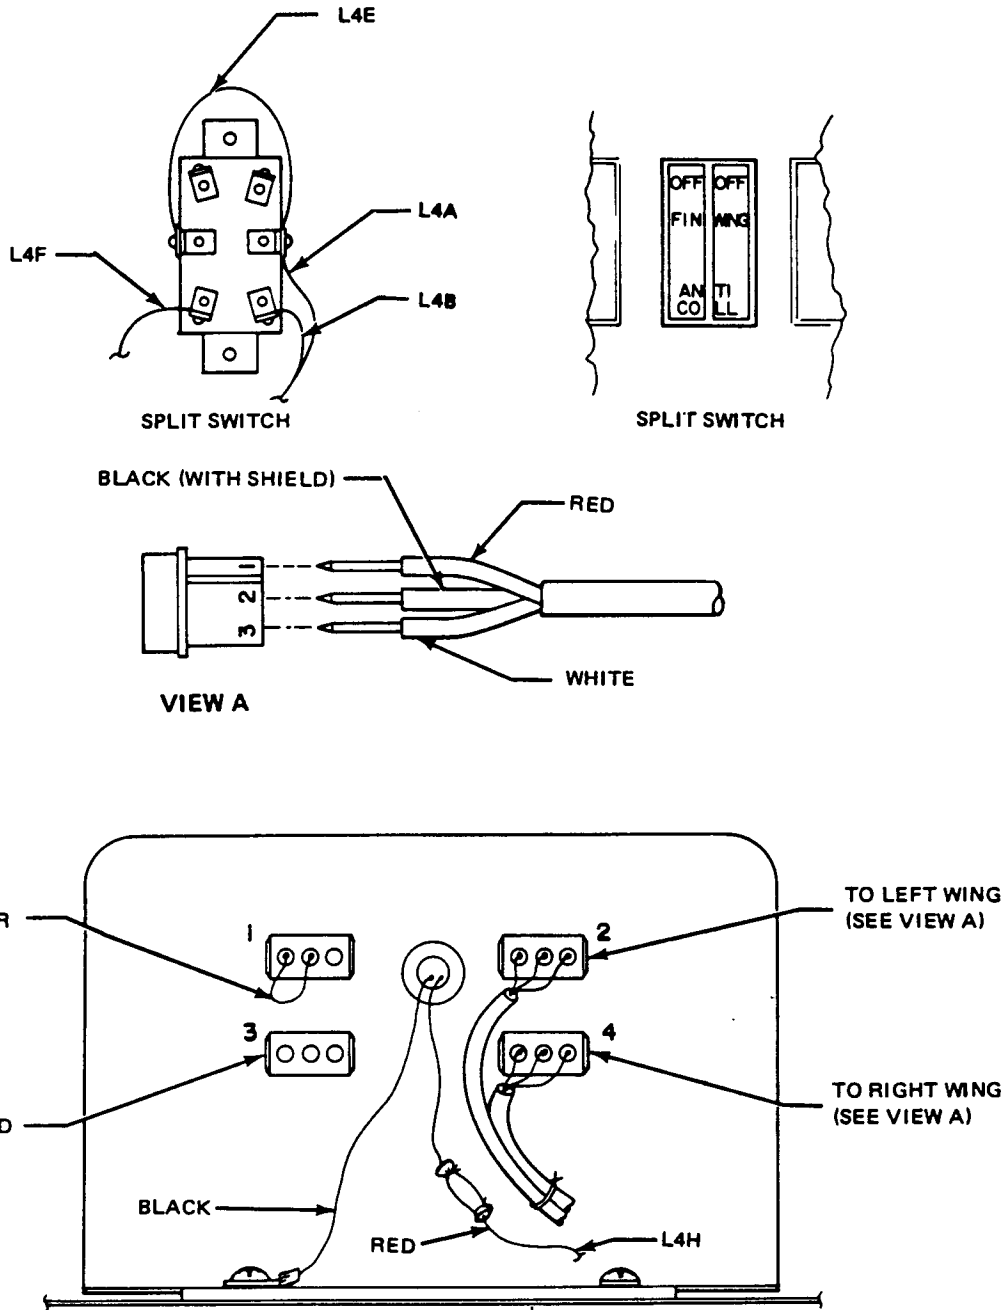

Figure 33-1. Strobe Light Connections
2. Insert wire terminals in plastic plug supplied with new lamp. Wire according to schematic diagram. (Refer to figure 33-1.) Connect plug to receptacle.
INSTALLATION OF STROBE POWER SUPPLY (figure 33-1)